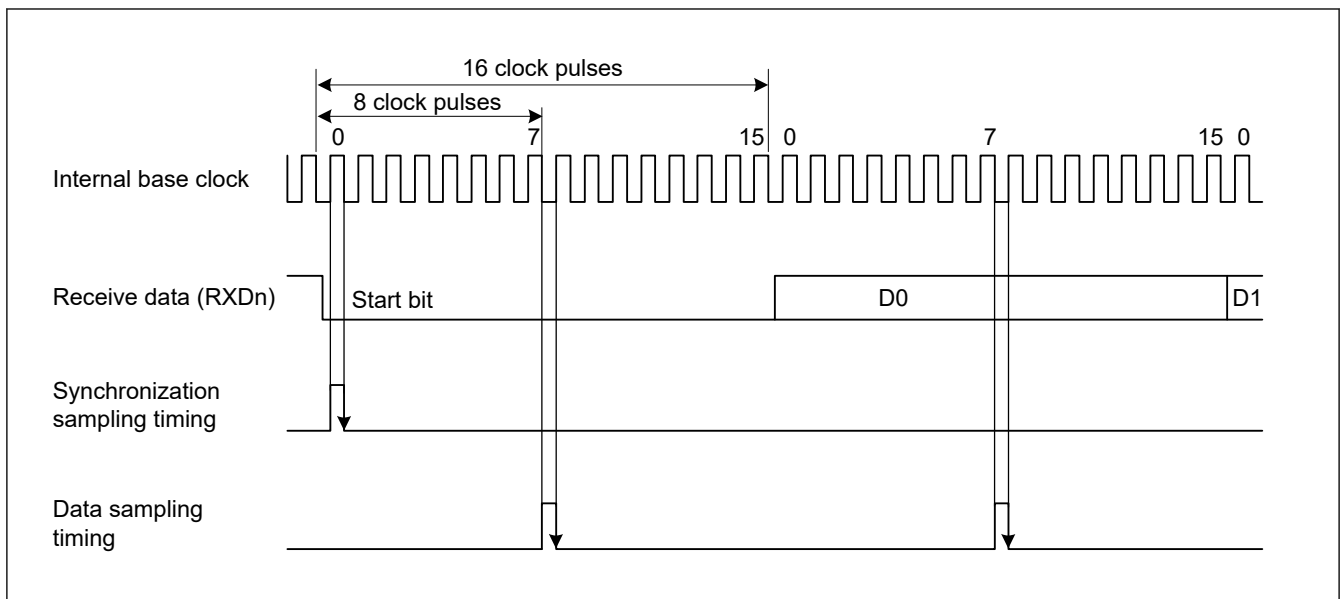

Figure 27.4 Receive data sampling timing in asynchronous mode
Because receive data is sampled on the rising edge of the 8th pulse*1 of the base clock, data is latched at the middle of each bit (when sampling timing does not adjust (SPTR.ASEN = 0)), as shown in Figure 27.4 The reception margin in asynchronous mode is determined by the following formula (1):
The determination condition of a start bit is that Low beyond half bit length continues. It is same as the sampling timing. In Figure 27.4, Low period should be kept over 8-cycles to detect a start bit. If Low period does not keep over 8-cycles, the IP judges this as a noise. So, the IP does not start reception and wait start bit.